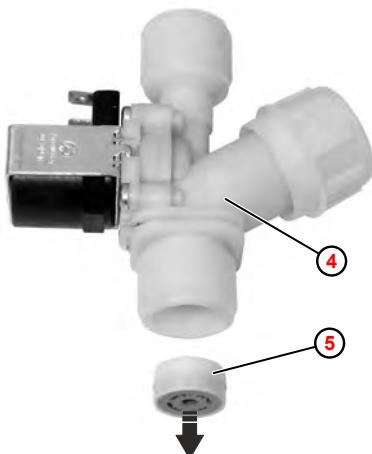

Fig. 63: Removing the quantity regulator
④ Solenoid valve
⑤ Flow regulator
4. ➤ If necessary, remove the quantity regulator ⑤ from the solenoid valve ④ using a suitable tool (e.g. scriber). This destroys the quantity regulator.
5. ➤ Fit a new quantity regulator, making sure that it is in the correct position (Fig. 63).